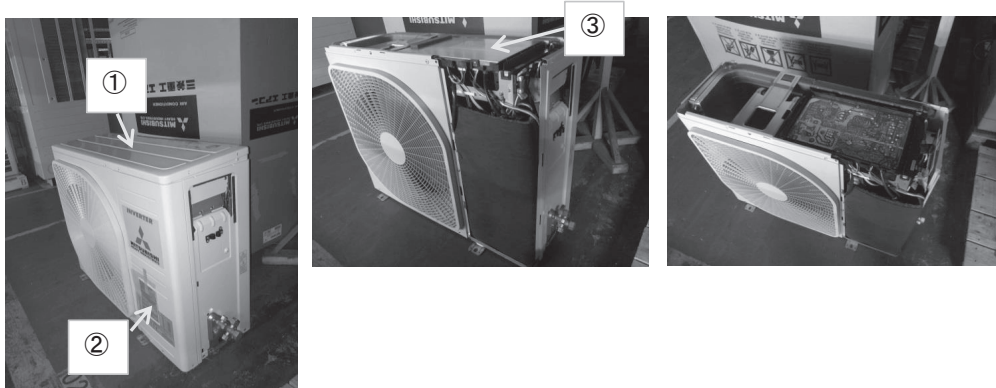

Fig.1 Outdoor unit
- 2) Remove a top panel.(Fig.1 ①)
- 3) Detach a service panel.(Fig.1 ②)
- 4) Detach a top panel of control box.(Fig.1 ③)